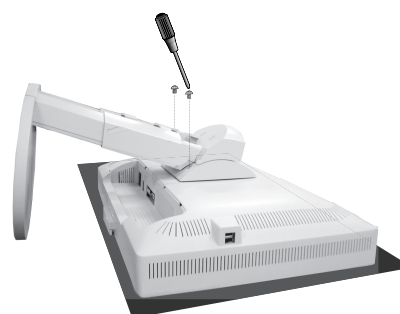

Figure S.3
3. Place monitor face down on a non-abrasive surface (**Figure S.3**).
4. Remove the 2 screws connecting the stand to the monitor (**Figure S.3**).